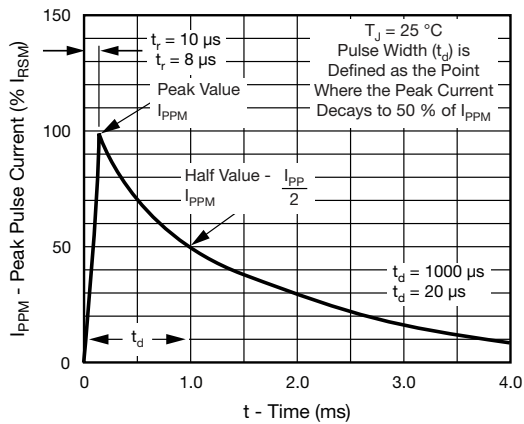
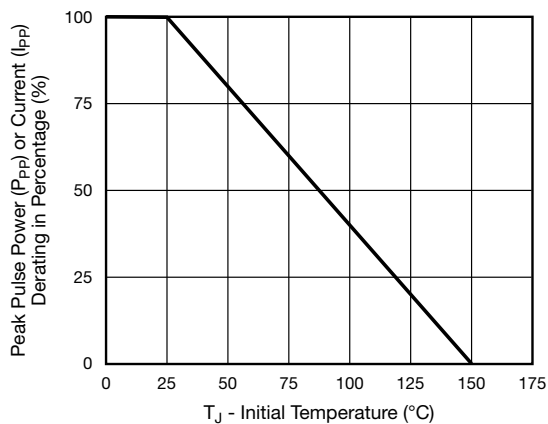

Fig. 1 - Pulse Waveform
Fig. 3 - Pulse Power or Current vs. Initial Junction Temperature
- (1) Non-repetitive current pulse, per fig. 1
- (2) Mounted on 6.0 mm x 6.0 mm copper pads to each terminal
- (3) Mounted on minimum recommended pad layout
- (1) Pulse test:  $t_p \leq 50\text{ ms}$
(2) Surge current waveform per Fig. 1 and derate per Fig. 3
(3) To calculate maximum clamping voltage at surge current uses the following formula:  $V_{CL\text{ max.}} = R_D \times I_{PP} + V_{BR\text{ max.}}$